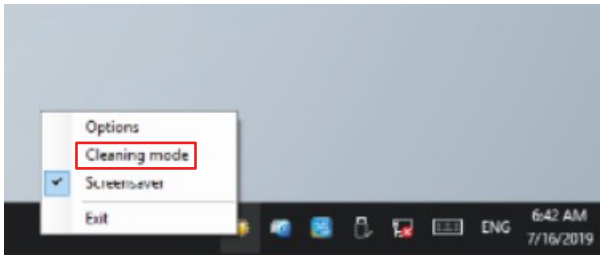

Fig. 17: Select Cleaning Mode
3. Select the "Cleaning Mode" (see Fig. 17).